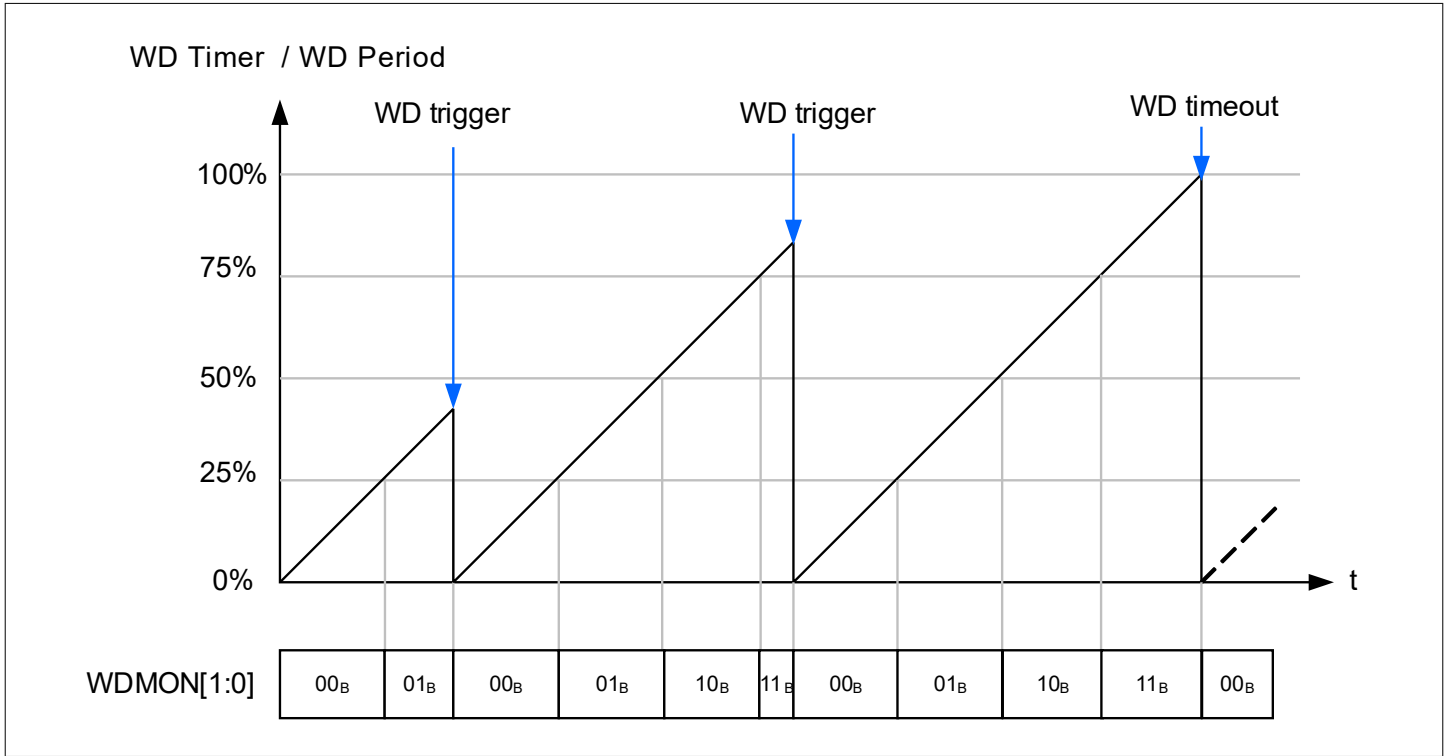

Figure 38 Example of watchdog monitoring and watchdog timeout
- The watchdog trigger bit is not served within the watchdog period (watchdog timeout event). See Figure 38^{12\)}.
The status bits **WDMON**[1:0] report the relative position of the watchdog timer to the watchdog period. Refer to Table 21 and Figure 38. This allows the detection of a potential latent failure associated to the watchdog timer: the microcontroller can indeed verify that the watchdog timer is running.